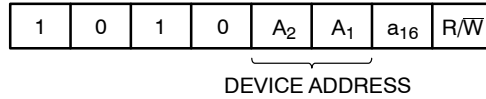

Figure 3. Slave Address Bits
The Master initiates data transfer by creating a START condition on the bus. The Master then broadcasts an 8-bit serial Slave address. The first 4 bits of the Slave address are set to 1010, for normal Read/Write operations (Figure 3). The next 2 bits, A2, A1, select one of 4 possible memory devices connected on a single I2C bus. The A2 and A1 bits must match the state of the external address pins. The seventh bit, a16 is the most significant internal address bit. The last bit, R/ $\overline{W}$ , specifies whether a Read (1) or Write (0) operation is to be performed. To select an internal memory location (data byte) a 17-bit address word is required: a16 bit from the Slave address byte followed by two address bytes.